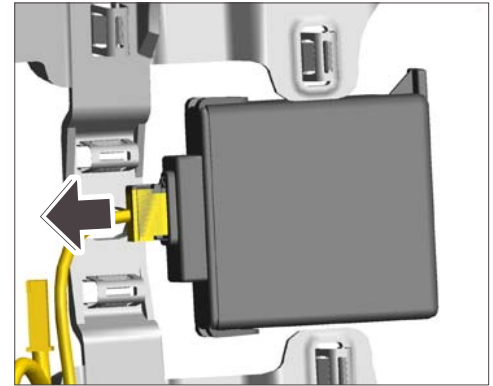

Figure 2
- 2.1.1 Disconnect plug connection for interior sensor ⇒ *Figure 2-arrow-*.